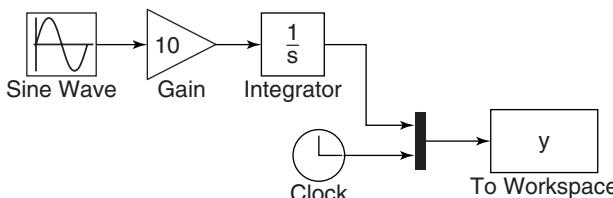

Figure 10.2-5 Simulink model using the Clock and To Workspace blocks.
Modify the Simulink model constructed in Example 10.2-1 as follows. Refer to Figure 10.2-5.
4. Connect the top input port of the Mux block to the output port of the Integrator block. Then use the same technique to connect the bottom input port of the Mux block to the outport port of the Clock block. Your model should now look like that shown in Figure 10.2-5.